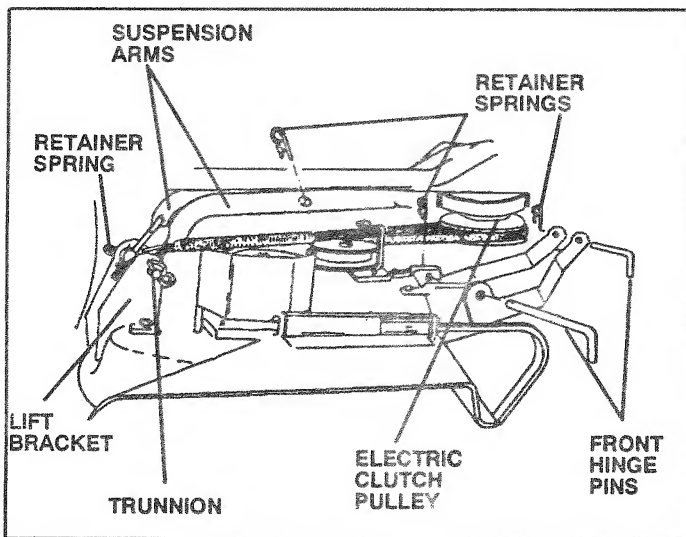

FIG. 22
TO REMOVE MOWER (See FIG. 22)
- Roll belt off electric clutch pulley (See FIG. 22).